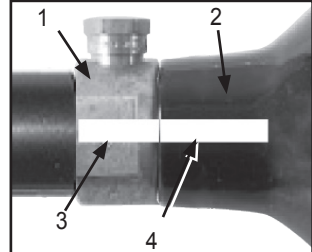

Figure 4: Properly marked Valve and Cylinder
The brass or nickel plated cylinder valve (Figure 4, #1) is intended to be permanently attached to the air or CO₂ cylinder (2).
Refer to Figure 4. There have been reported incidents caused by players unknowingly unscrewing the cylinder (2) from the cylinder valve (1). This occurs when the player thinks the entire valve-cylinder assembly is being unscrewed from the air/CO₂ supply adaptor of the paintball marker, when in fact he/she is unscrewing the cylinder from the cylinder valve.
4. Watch the marks on the cylinder and cylinder valve (as shown in Figure 4 on page 10) as you turn the cylinder approximately $\frac{3}{4}$ turn counterclockwise. This allows the air/CO2 supply pin valve to close so that no air/CO2 will enter the marker.